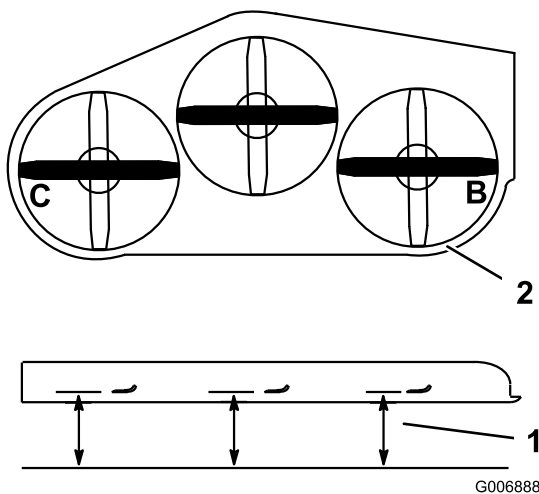

Figure 80
1. Position the **right** blade side-to-side (Figure 80).
2. Measure the right blade at the **B** location, from a level surface to the cutting edge of the blade tip (Figure 80).
4. Position the left blade side-to-side (Figure 80).
5. Measure the left blade at the **C** location (Figure 80), from a level surface to the cutting edge of the blade tip.